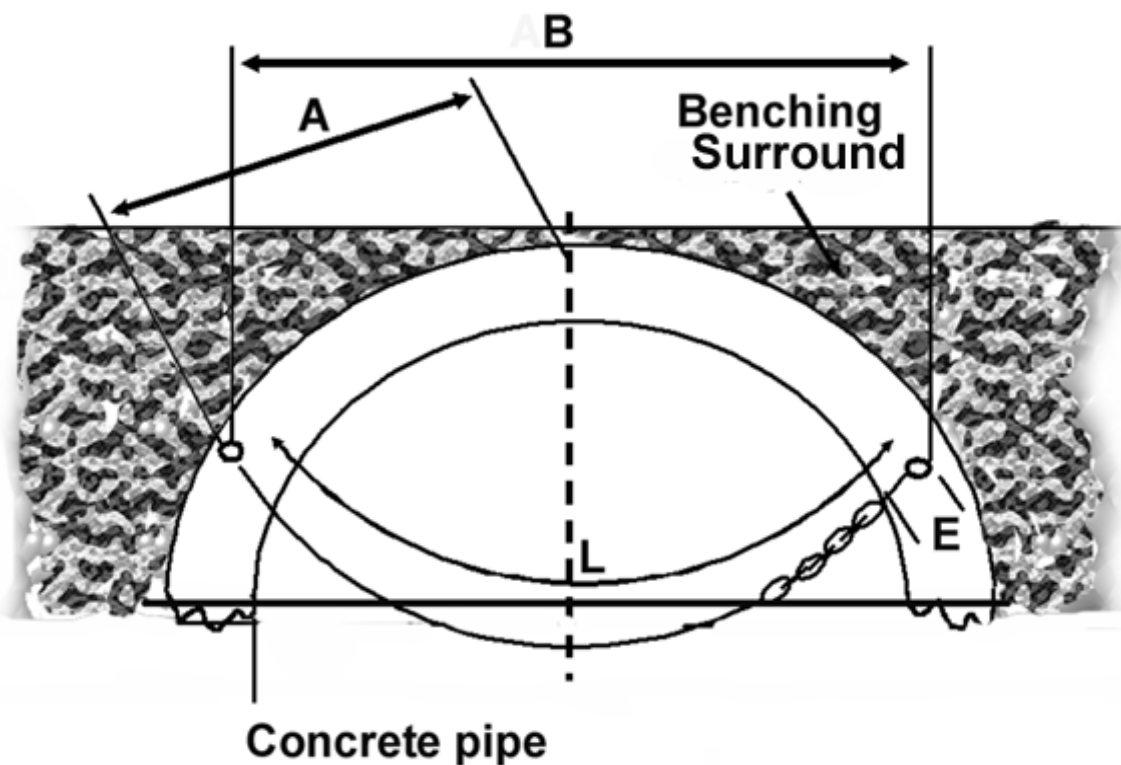

Fig 4
- (1) Mark off the hole centres as shown in Fig 4 using dimensions in table 1. Drill a 10mm hole, 70 to 75 mm deep.